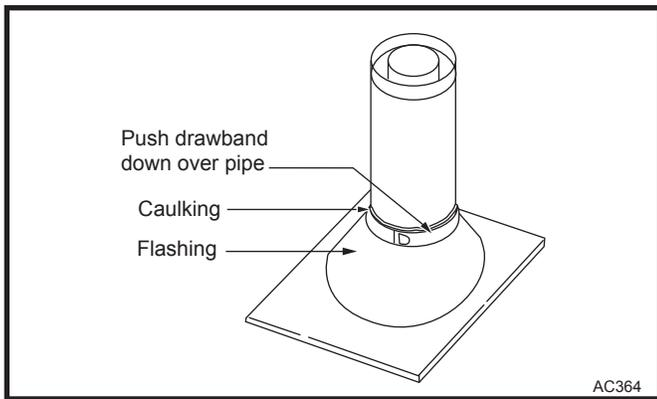

Fig. 4 Attaching the drawband.
5. Slide flashing down over intermediate section, then center flashing over the hole in the roof opening so there is 2" minimum air space between the outer pipe and combustible material. Nail the top edge of the flashing. Place the drawband around outer pipe at the top of the flashing. Insert the drawband tab through the outer slot and tighten until the drawband is snug against the outer pipe and flashing. Bend the tab back over the slot to secure drawband. Apply caulking around the top of the drawband to seal it to outer pipe. (Fig. 4)